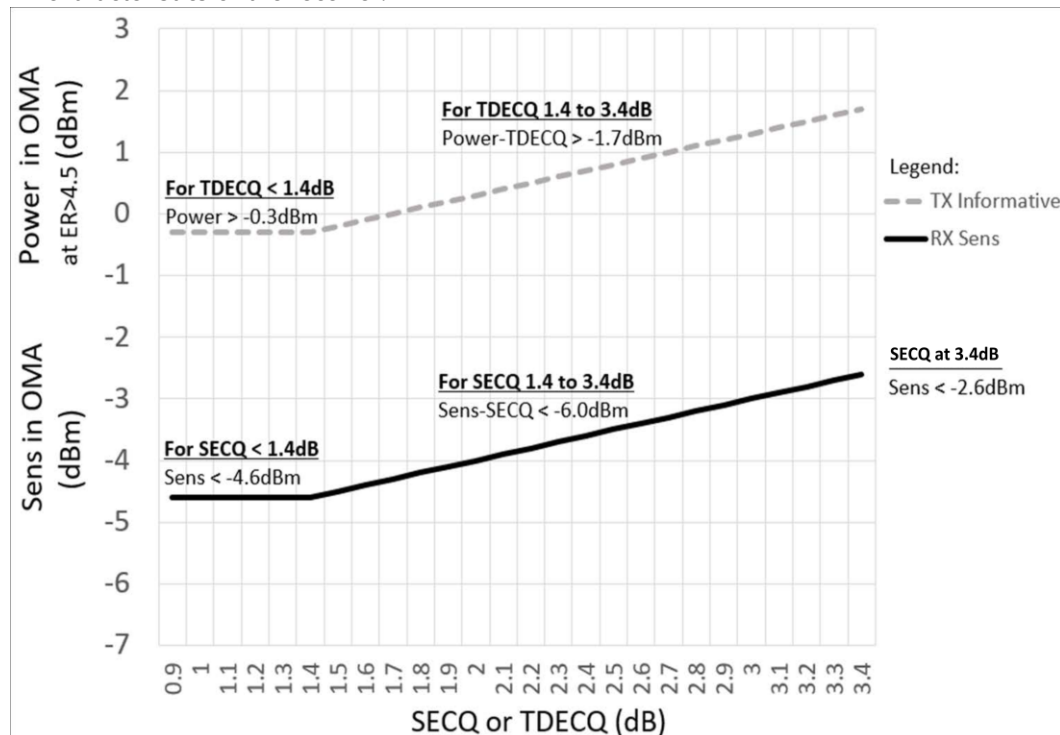

Figure 4. Stressed Receiver Sensitivity Mask for 400G-FR4
5. Measured with conformance test signal for BER = 2.4×10^{-4} . A compliant receiver shall have stressed receiver sensitivity (OMA_{outer}), each lane values below the mask of Figure 4, for SECQ values between 0.9 and 3.4 dB.